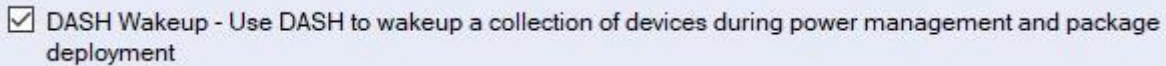

Figure 15: DASH Wakeup Section
- In the **DASH Configuration** screen Figure 15 Select the **DASH Wakeup** during Package Deployment check box, if already not selected.